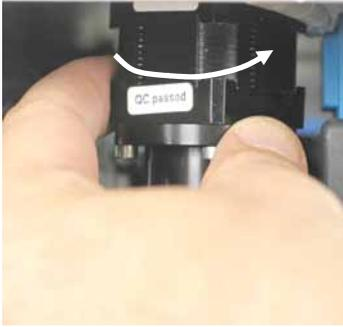

Fig. 15: Release the FCV
5. Hold the FCV at the drive (top) and turn it by approx. 45° counterclockwise (Fig. 15) to the position where the bayonet catch at the FCV's lower side is released.